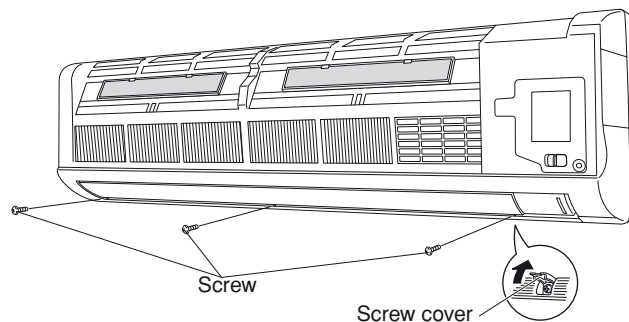

Fig. 17-2
- (2) Remove the 3 screws where the screw covers are open. (Fig. 17-2)